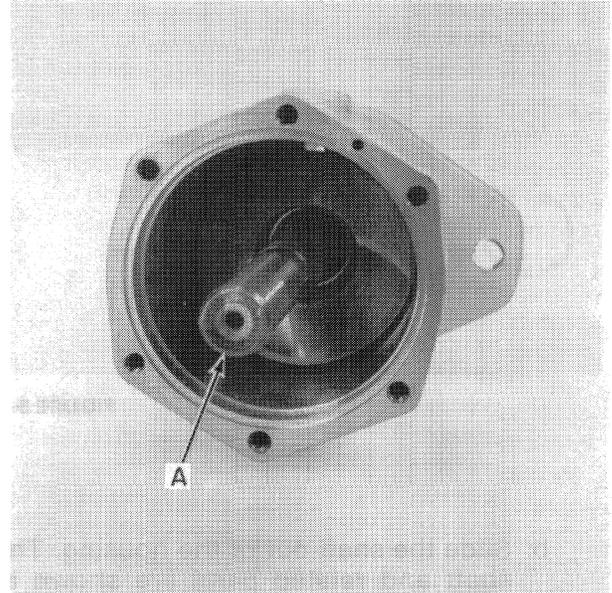

FIGURE 5-8
9. To remove the motor shaft, A, Figure 5-8: